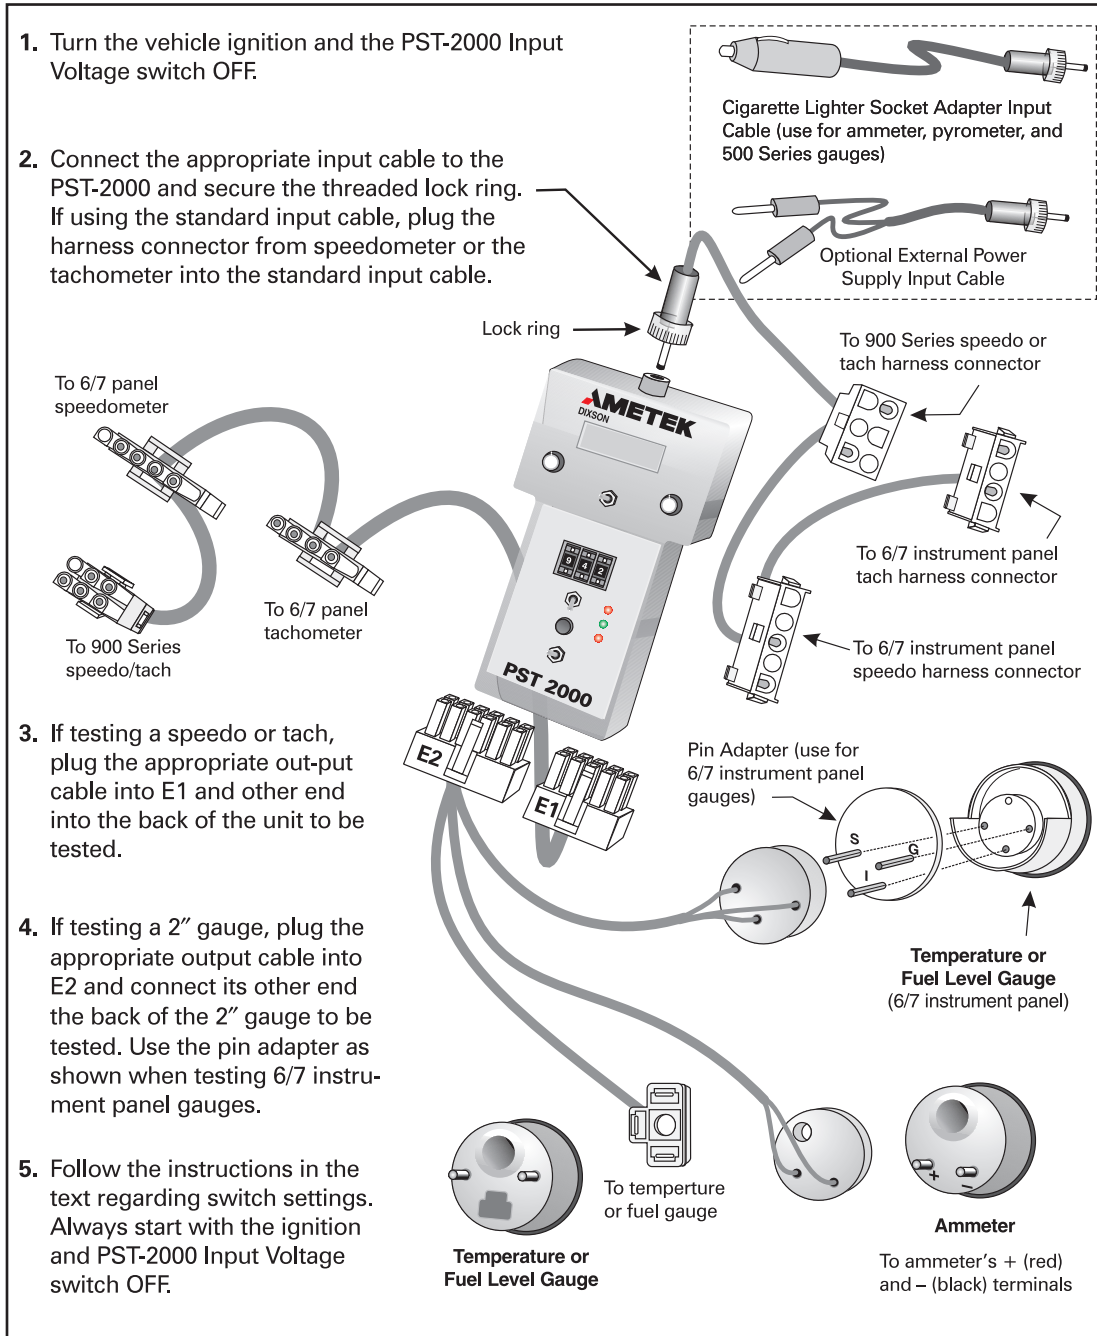

Figure 2 Connecting the PST-2000
The PST-2000 comes with a standard input cable that provides power to the tool, and two standard output cables that send signals to the gauges. Optional input and output cables are available. The cables are connected as shown in Figure 2.
1. Connect the PST-2000 as described in Figure 2.
1. Unplug the gauge to be tested (or remove it from the 6/7 instrument panel) and connect the PST-2000 as described in Figure 2.
1. Unplug the gauge to be tested and connect the PST-2000 as described in Figure 2.